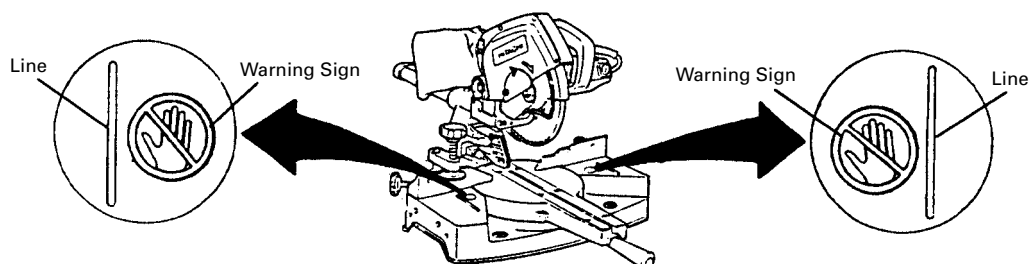

Fig. 15
* Never place your limbs inside of the line next to warning sign while the tool is being operated. This may cause hazardous conditions (see Fig. 15).